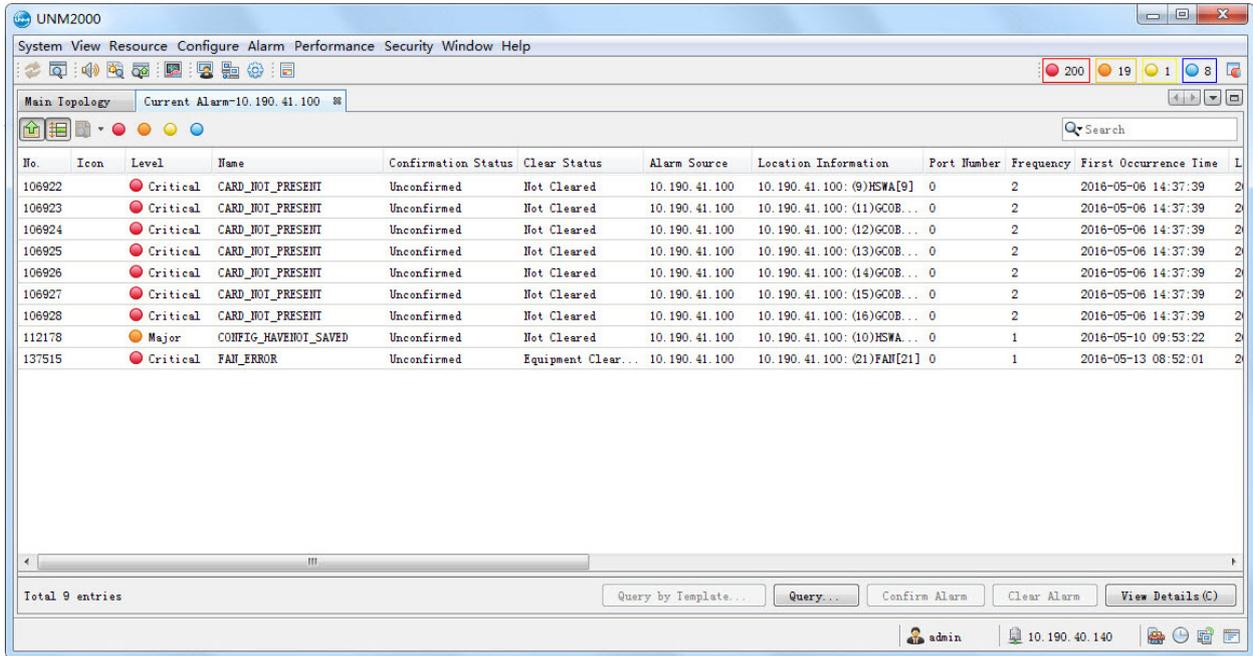

Figure 4-1 Viewing Current Alarms
1. Right-click the query object, select **Current Alarm** in the shortcut menu, and you can view the current alarms of the object. See Figure 4-1.